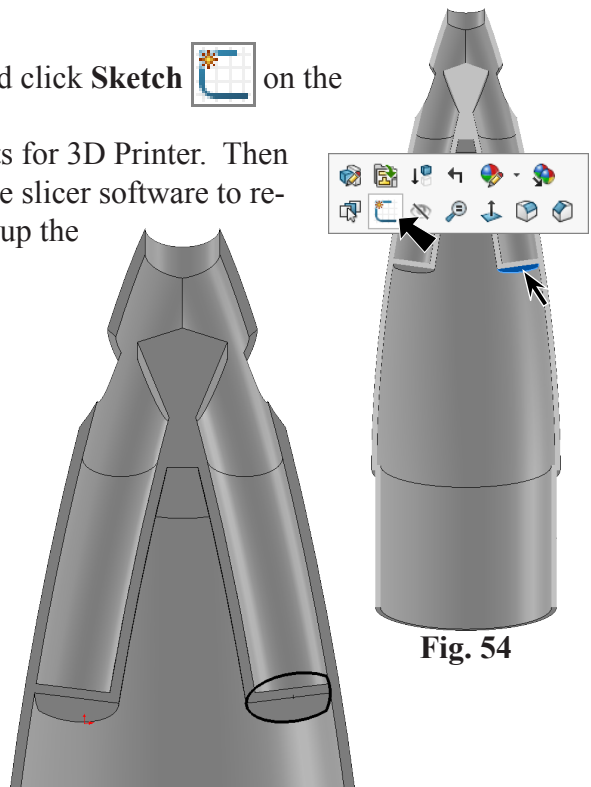

Fig. 54
Step 1. Click **bottom face of right Sweep Cut Bore** and click **Sketch**  on the context toolbar, **Fig. 54**.